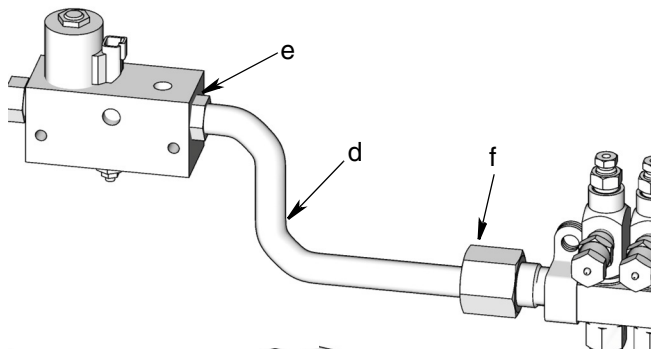

FIG. 3
5. Connect main lubrication line (d) to any manifold outlet (e) (stamped with an "O") and lubricator inlet (f) (FIG. 3).
3. Remove existing plumbing installed between pressure supply and lubricator inlet (h) (FIG. 3).